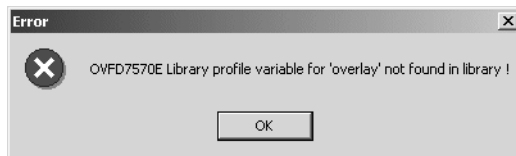

Figure 48. Failure to find default library for overlay resource
- Messages such as the one shown in Figure 48